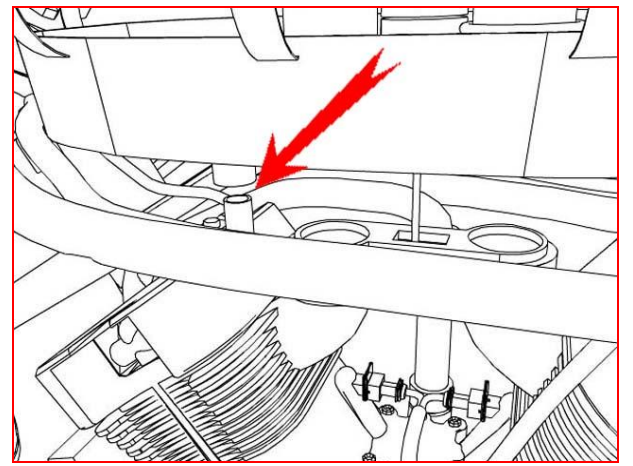

Figure 5
7. Disengage front crankcase breather hose and remove airbox floor. There is no clamp on this hose. (fig 5)